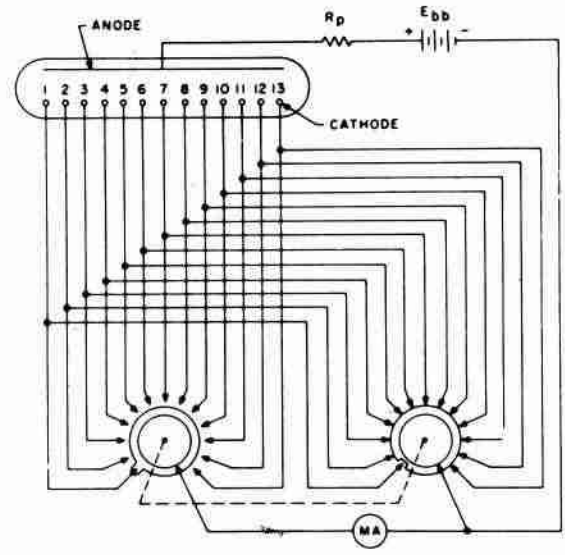

Figure 8. TEST CIRCUIT
2. These tests are conducted with all cathodes ionized as shown in Figure 8 except as noted (See notes 4 and 5)